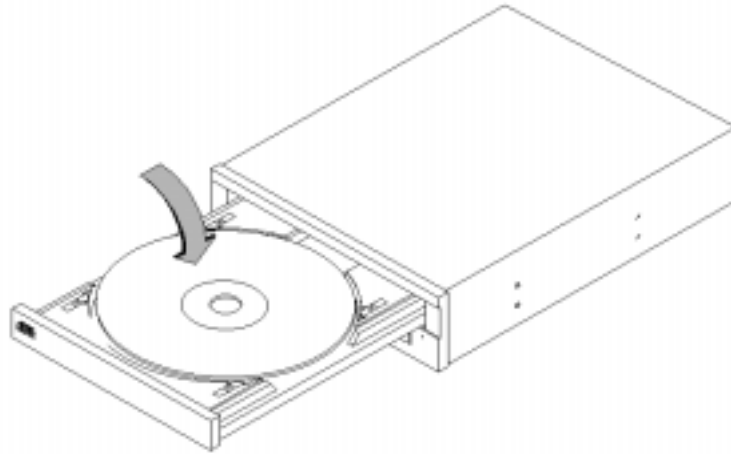

Figure 7-3
- 4** Hold the disc by the edges with the label side up and place it in the disc tray as shown in Figure 7-3.